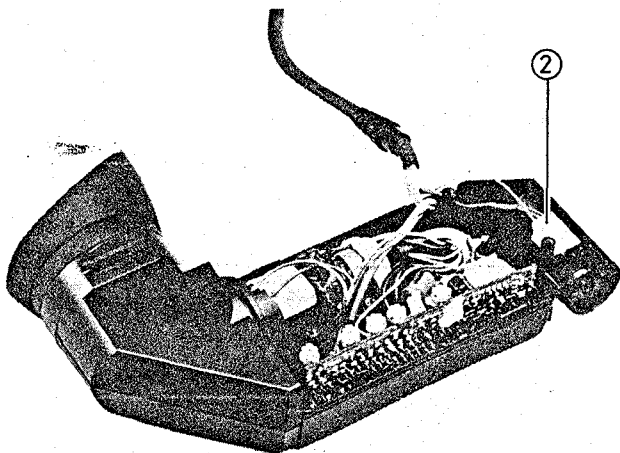

Fig. 2-141 Mic Jack Circuit Board Removal
Mic Jack Circuit Board Removal (Fig. 2-141)
2. Disconnect connector CN023. (See Fig. 2-141)